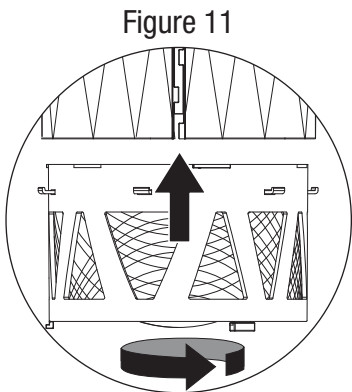

Figure 11
8. Reattach catch cup to the lower body by rotating it clockwise (Figure 11).
Connect catch cup (Figure 11).